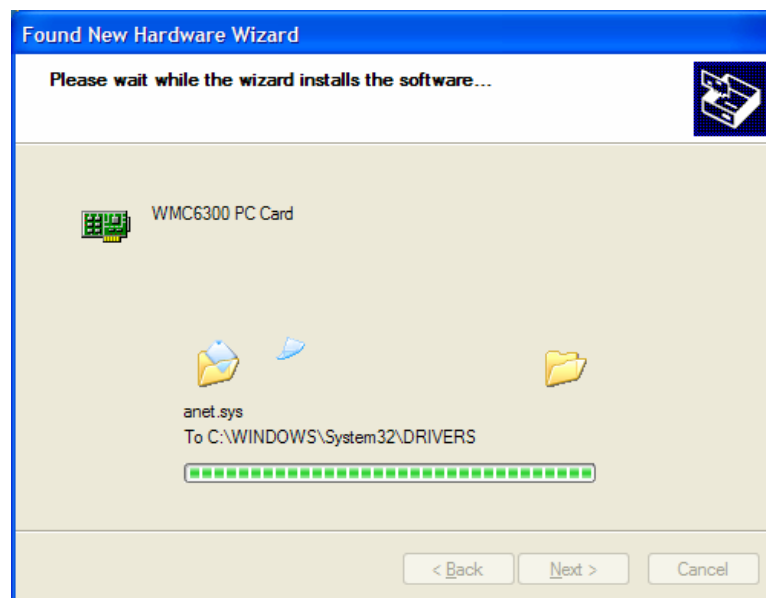
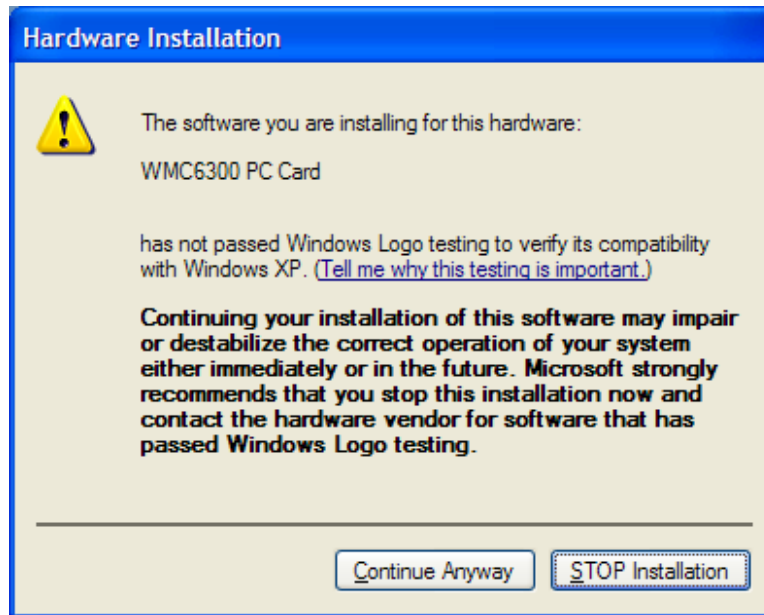

Figure 36. Found New Hardware Wizard Loading Files
Figure 37. Hardware Installation Dialog Box - WMC6300 PC Card
9. A *Loading Files* dialog box will appear as shown in Figure 36, followed by a *Hardware Installation* dialog box as shown in Figure 37. Click on the **Continue Anyway** button in the *Hardware Installation* dialog box.